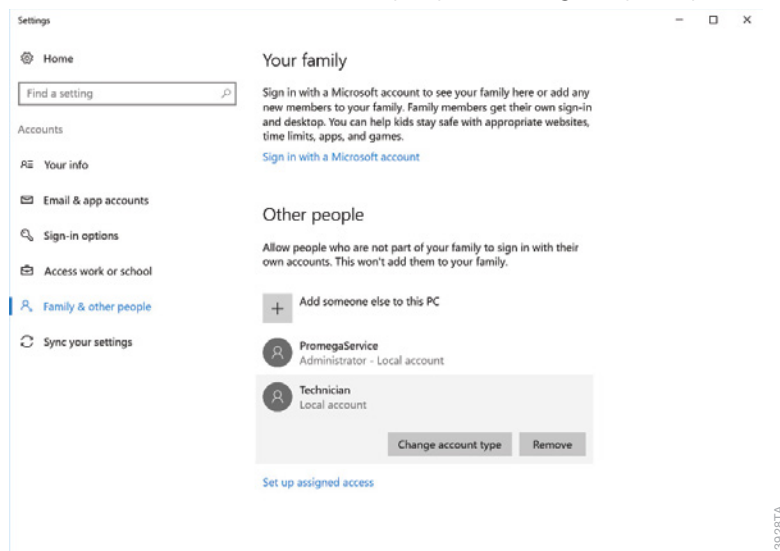

Figure 53. Assigning account options. Select any of the listed Windows® user accounts to access options for changing the account type.
8. By default, the new user account will have user access level rights within the Windows® 10 operating system. If you desire the new user account to have administrator rights, select the user account under the *Other people* heading to open options for that user (Figure 53).